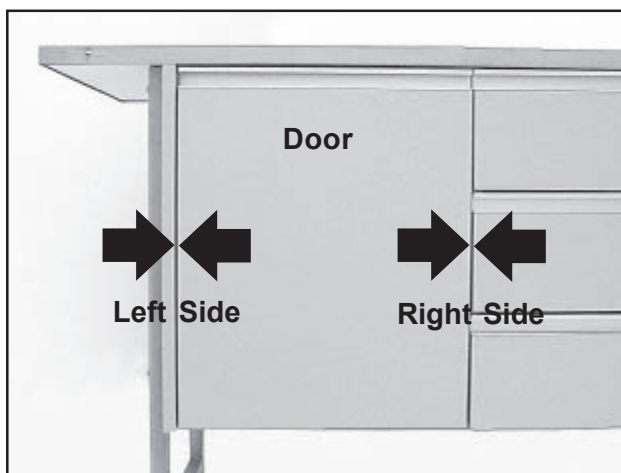

Figure 10. Adjusting the Door Left-Right
2. Observe the gaps between the left and right sides of the door and the door frame (Figure 10).